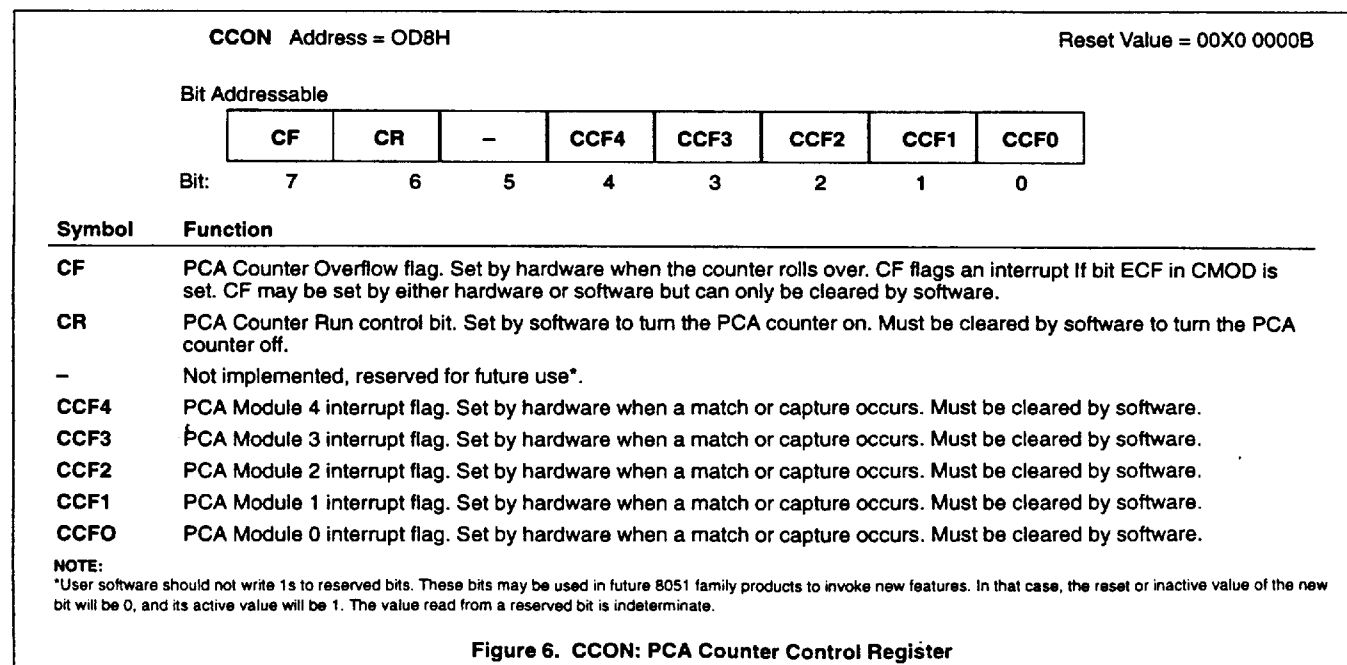

Figure 6. CCON: PCA Counter Control Register
The CCON SFR contains the run control bit for the PCA and the flags for the PCA timer (CF) and each module (refer to Figure 6). To run the PCA the CR bit (CCON.6) must be set by software. The PCA is shut off by clearing this bit. The CF bit (CCON.7) is set when the PCA counter overflows and an interrupt will be generated if the ECF bit in the CMOD register is set. The CF bit can only be cleared by software. Bits 0 through 4 of the CCON register are the flags for the modules (bit 0 for module 0, bit 1 for module 1, etc.) and are set by hardware when either a match or a capture occurs. These flags also can only be cleared by software. The PCA interrupt system shown in Figure 4.